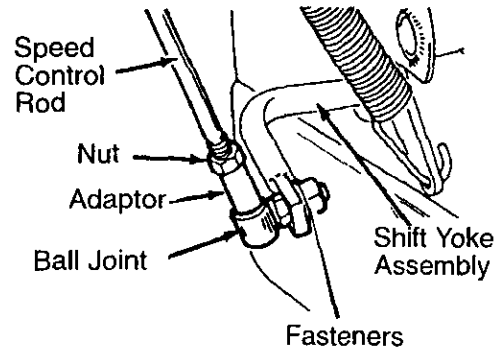

Figure 36
1. Loosen the **nut** on the **speed control rod**. See Figure 36.
6. Remove the **speed control rod** from the **shift yoke assembly**. See Figure 36.
15. Attach the **speed control rod** to the **shift yoke assembly**. See Figure 36.